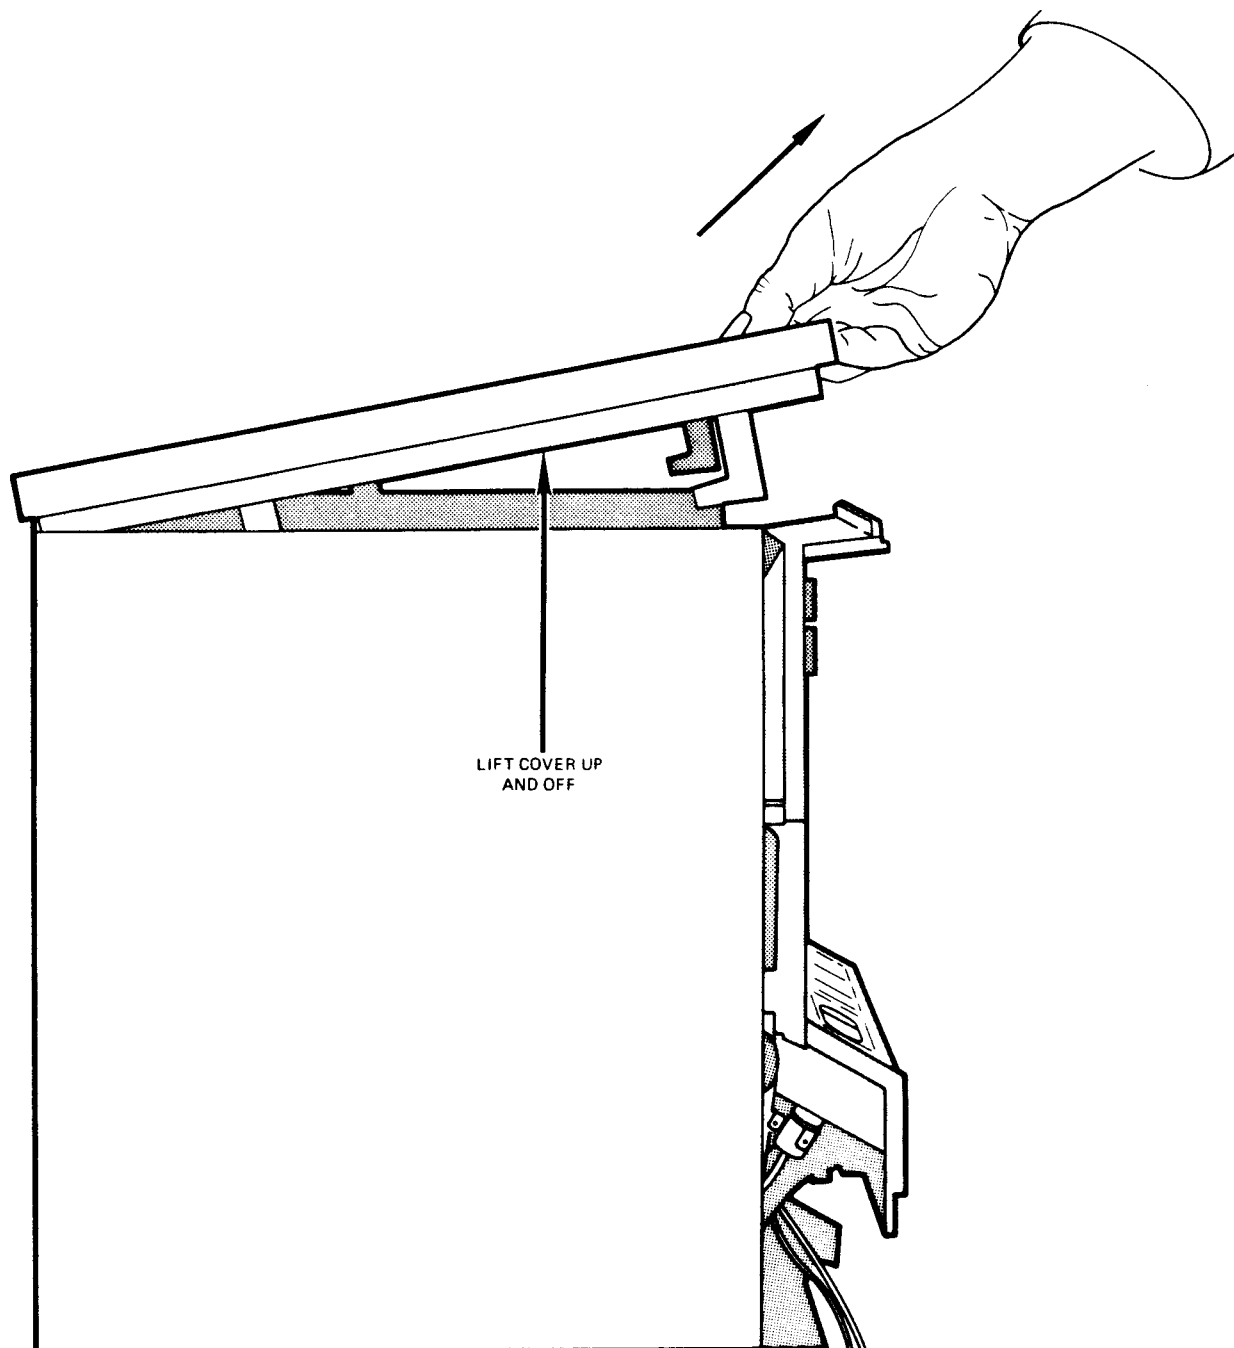

Figure C-5. Removing the Cover
5. Lift off the cover (see Figure C-5).